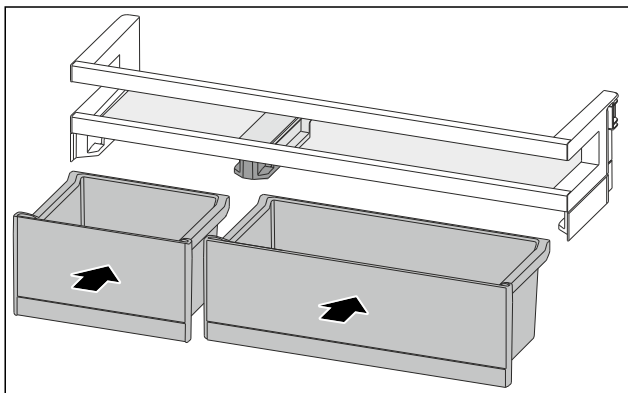

Fig. 189
- ▶ Insert the VarioBoxes in reverse order. (see Fig. 189)